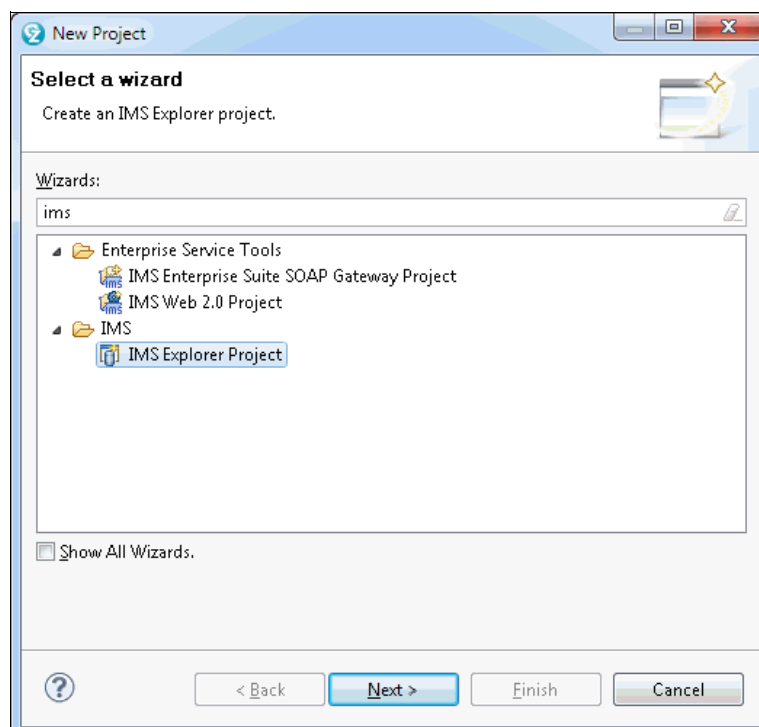

Figure 8-16 IMS Explorer Project
3. The wizard is the IMS Explorer Project wizard. Select this one, and click **Next**, as shown in Figure 8-16.